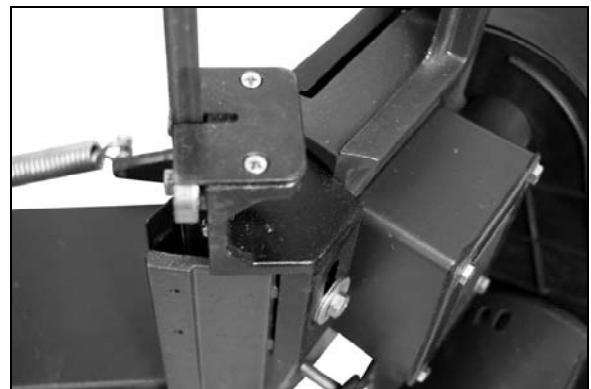

Figure 17
3. Remove the two screws (A) and cover plate (B) (see Fig.17.)